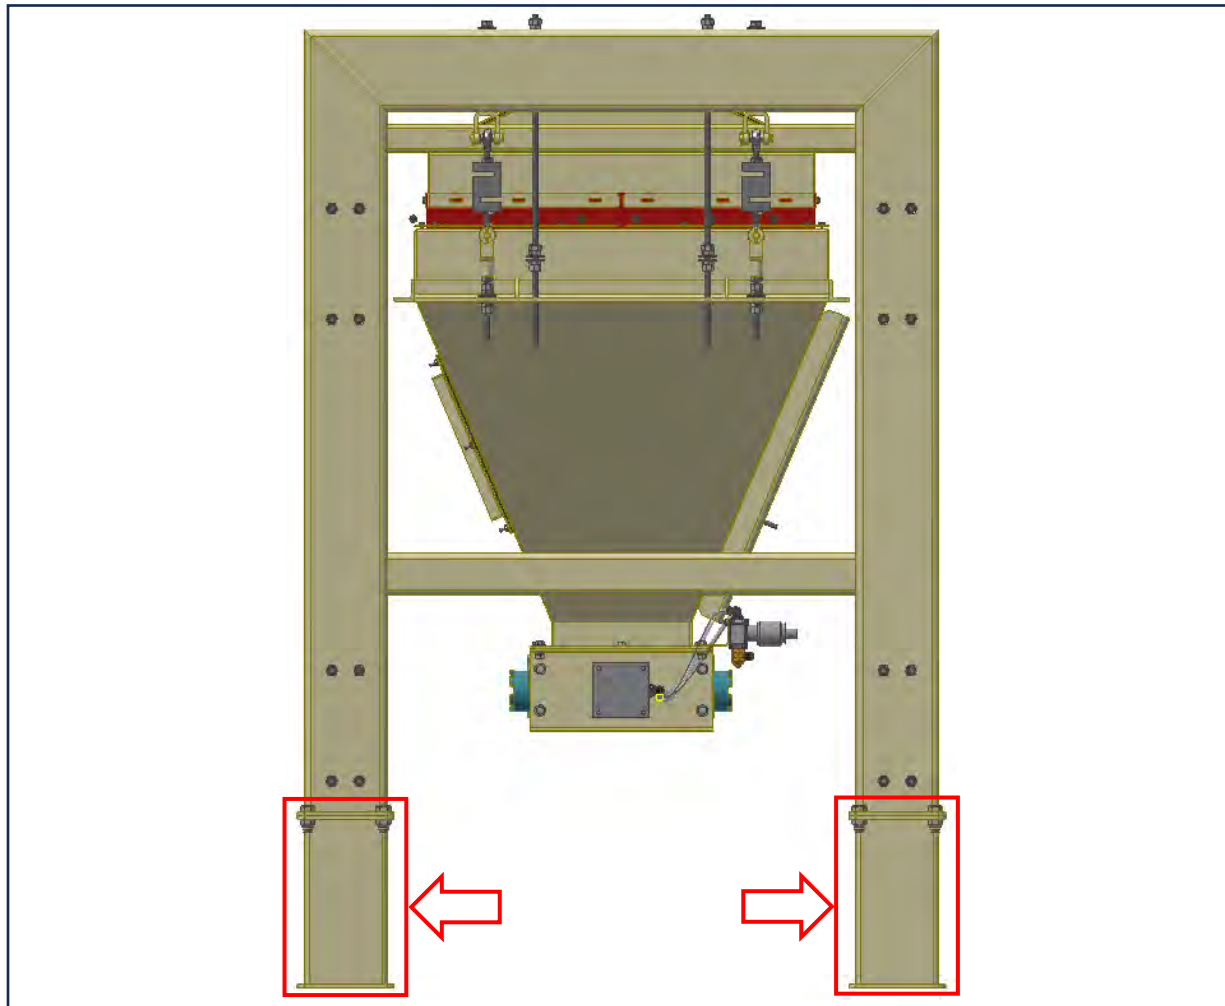

FIGURE 3: Example of the Pedestals that Need to be Attached to the Scale Hopper Frame
4. If shipped with additional leg pedestals, attach the pedestals to the Scale Hopper frame legs (Figure 3).